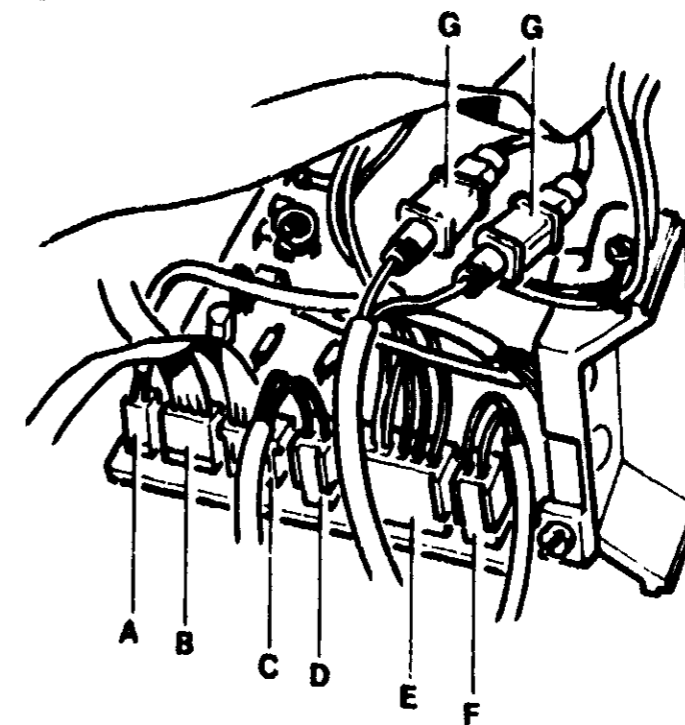

FIGURE 82
4 MOTOR CONTROL BOARD (Figure 82)
- G (Figure 82) to the machine bulbs